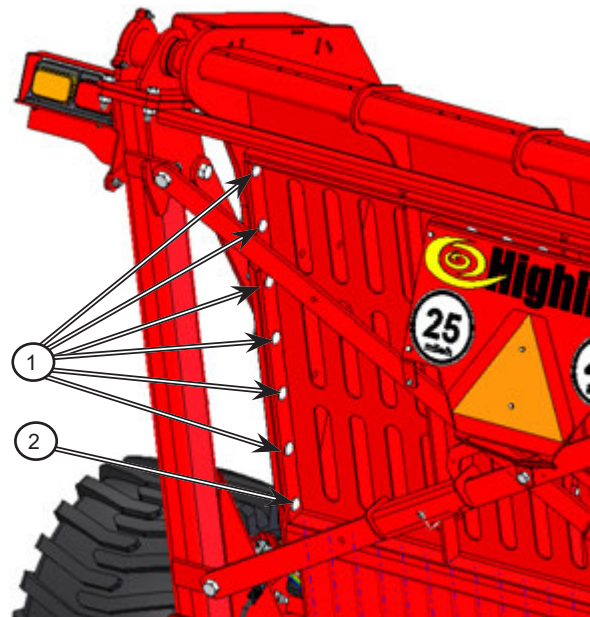

Figure 4.28: Remove the bolts
3. Remove the top 6 bolts (1) on either side of the dump height panel, and loosen the bottom bolt (2), as per *Figure 4.28*.